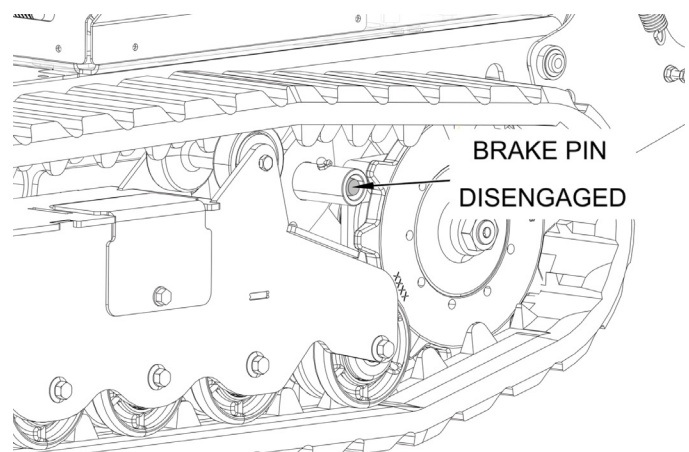

Figure 5-3. Parking Brake Disengaged
3. With the parking brake disengaged, check the brake shaft pin on each track. Ensure that the brake shaft pins clear the track sprockets. See Figure 5-3.